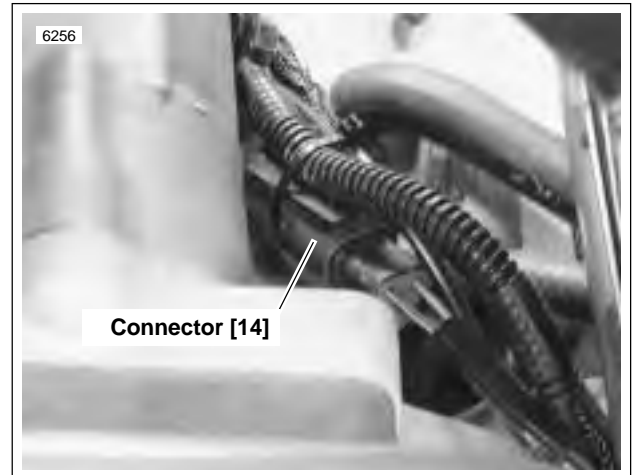

Figure 4-69. Cam Position Sensor Connector [14]
5. See Figure 4-69. Disconnect cam position sensor wiring at connector [14] located behind the starter motor.
6. See Figure 4-69. Note position of each cam position sensor wiring terminal in plug end of connector.
1. See Figure 4-69. With the lipped side facing inboard, install **new** camshaft oil seal into gearcase cover, if removed. Press seal into position until flush with surface of timer bore.
6. See Figure 4-69. Attach connector [14].